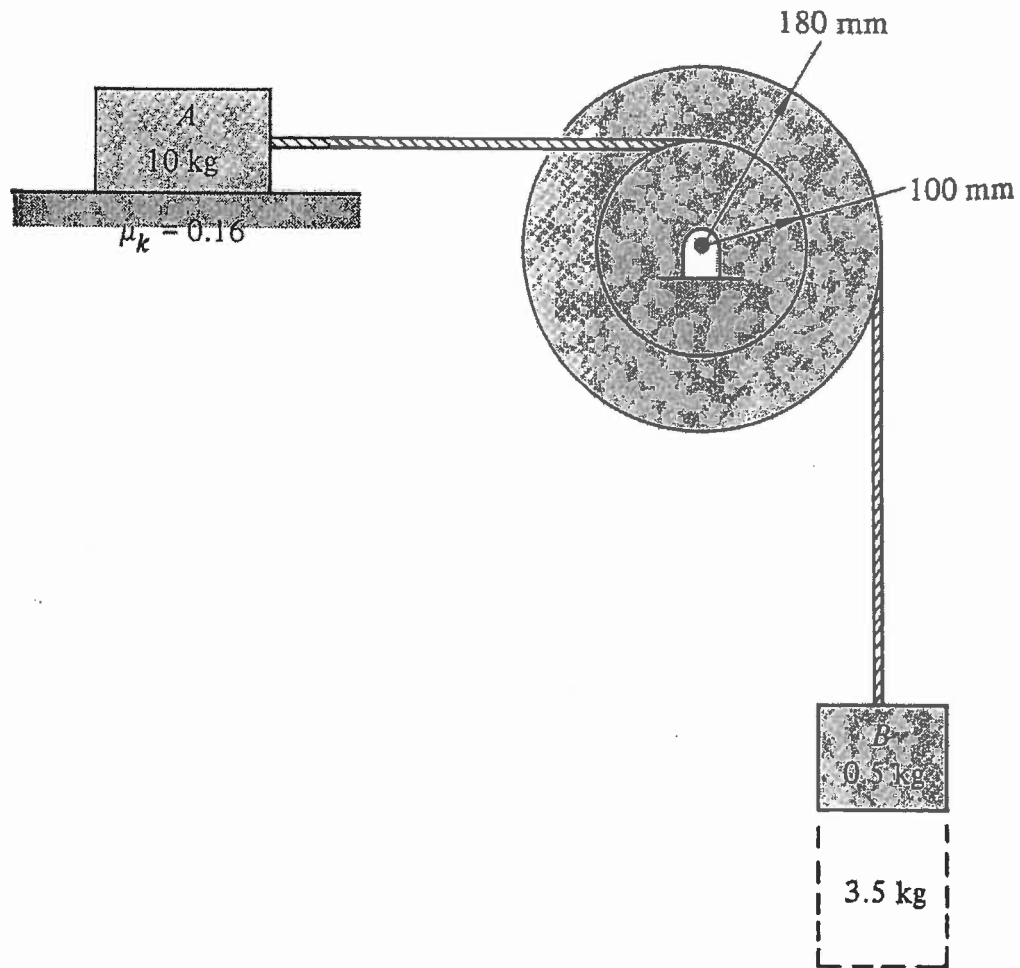

FIGURE 4.
- IV. The system shown in figure 4 is initially at rest. A second block of mass 3.5 kg is attached to block *B*. Determine the angular velocity of the pulley when block *A* has moved through a distance of 1.75 metres. Neglect the mass of the pulley.